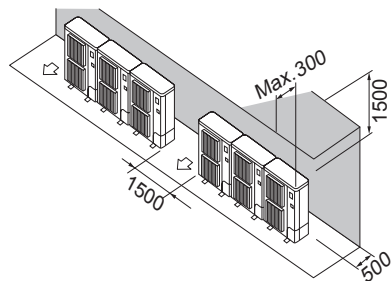

Fig. 4-13
- Obstacles at rear and above only (Fig. 4-13)